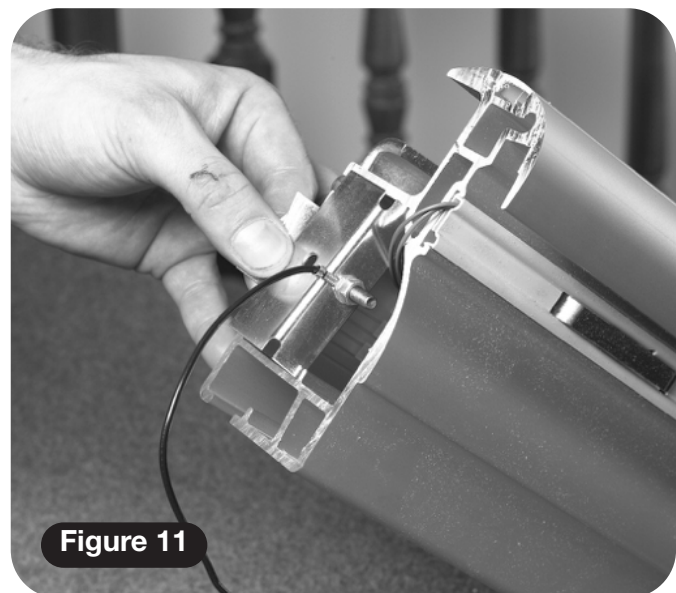

Figure 11
- a** Insert the nut plate pressing with the negative connection **(Figure 11)**.